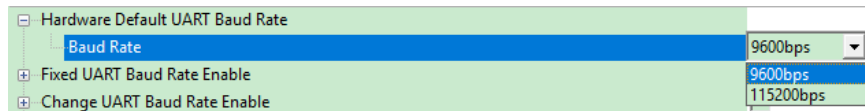

Figure 11
- **Hardware Default UART Baud Rate:** Setup the BLE default baud rate after a power-on reset of 60ms. Only two baud rates, 9600bps or 115200bps can be selected, as shown in Figure 11. This is the hardware method which is used to modify the BLE baud rate. Refer to Table 2.